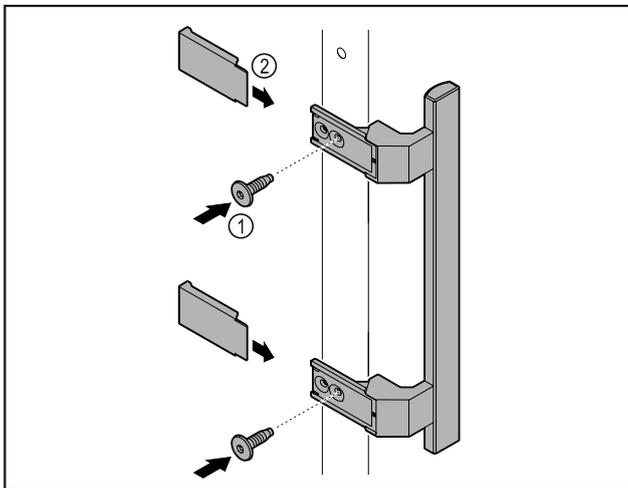

Fig. 47
- ▶ Attach handle from accessory kit to the door using the screws Fig. 47 (1) supplied.
- ▶ Put on cover Fig. 47 (2).